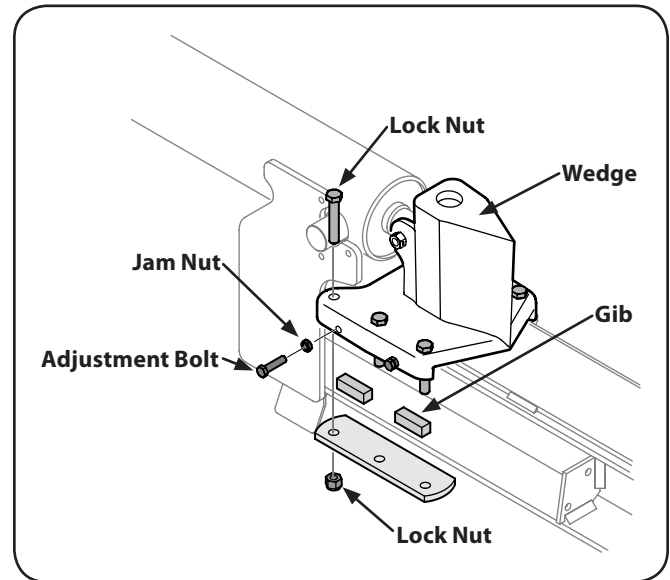

Figure 6-3
1. Loosen the lock nuts under each back plate and slide the gibs out. See Fig. 6-3.
1. Loosen the jam nuts on the two adjustment bolts on the side of the wedge. See Fig. 6-3.